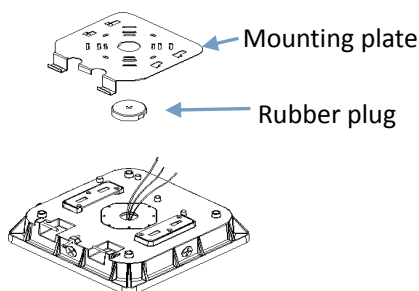

FIG.1
STEP 1. Remove the rubber plug and mounting plate FIG.1